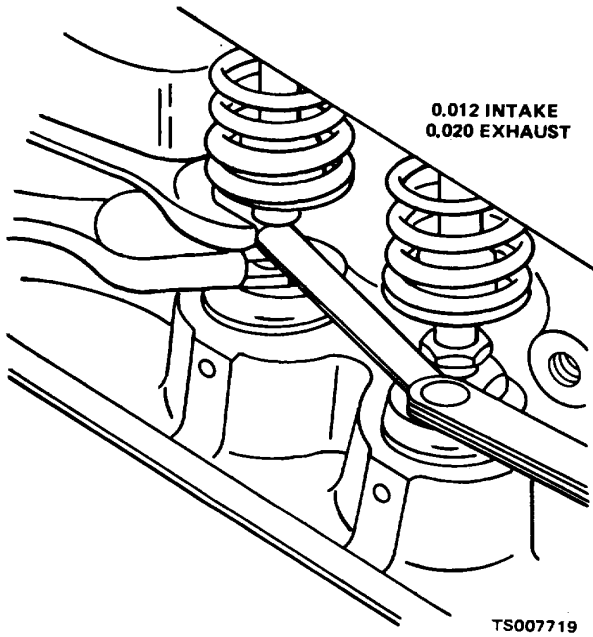

Figure 9-12.1. Valve Adjustment
- (1) Check for proper 0.012-inch intake valve clearance by alternately passing an 0.011-inch and an 0.013-inch flat feeler gage between the head of the adjusting screw and intake valve stem (figure 9-12.1).
- (2) If an 0.011-inch feeler gage moves freely back and forth in the gap when the valve is not being lifted and an 0.013-inch feeler gage binds at